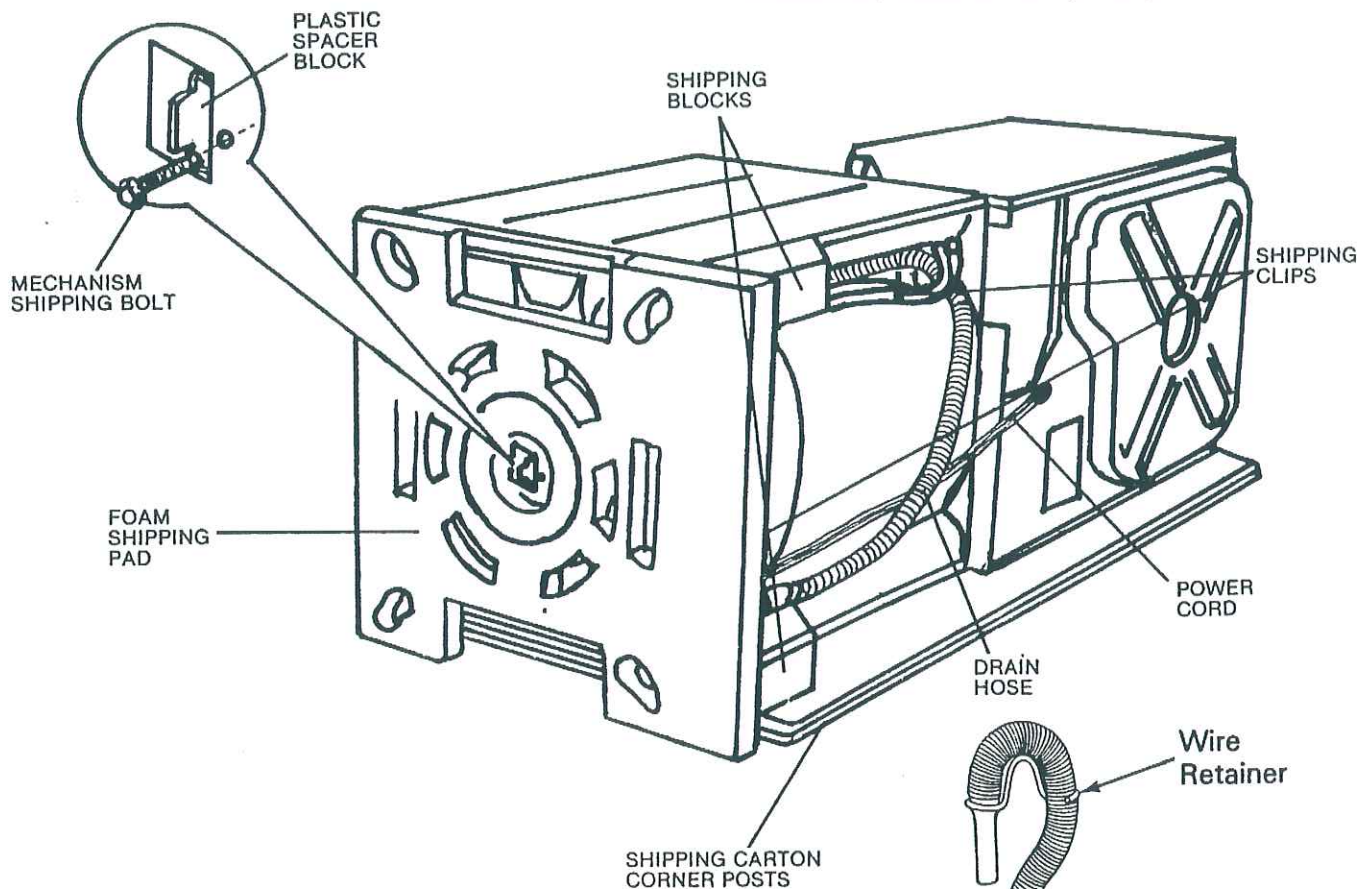

Figure A6
2. Using the four shipping carton corner posts (two on each side), carefully lay the Laundry Center on its side and remove foam shipping base (Figure A6).
3. Using ratchet with 3/8" socket, remove mechanism shipping bolt and plastic spacer block from center of base (Figure A6).